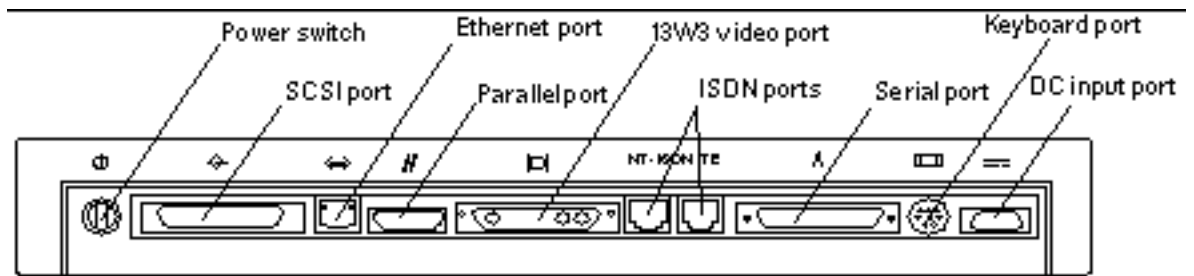

Figure 1-5 Back Panel
- Figure 1-5 shows the back panel